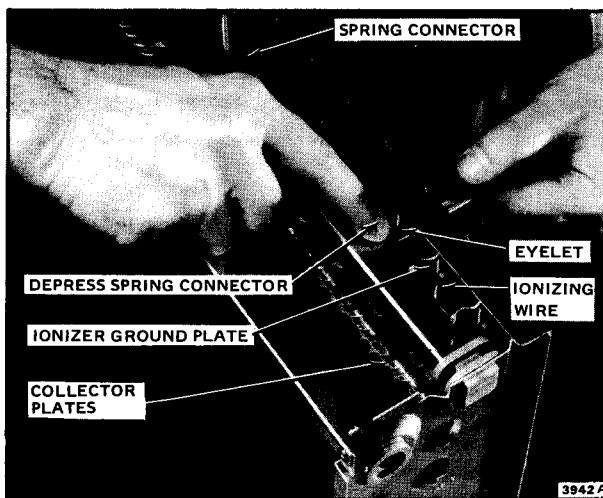

FIG. 33—INSTALL NEW IONIZING WIRE BY HOOKING EYELETS OVER SPRING CONNECTORS.
1. Hook the eyelet on one end of the wire over the spring connector on one end of the cell. See Fig. 33. Be careful to avoid damaging the spring connector or other parts of the cell.